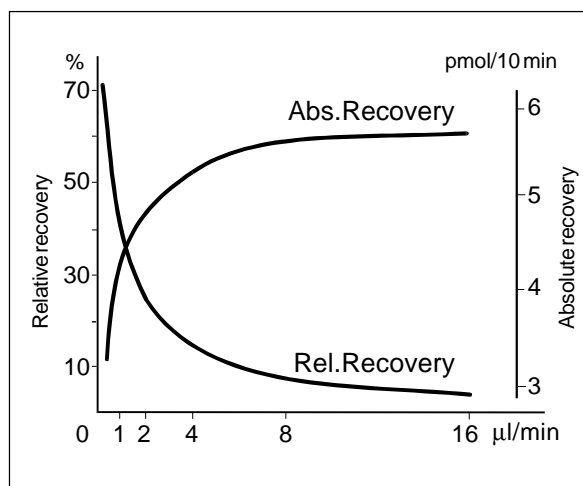

Fig.1. The **relative** and **absolute** recoveries for Dopamine as a function of flow rate. CMA/10 Microdialysis Probe, 4 mm membrane.
**Absolute recovery** is defined as the mass of a substance recovered during a defined time period. It is zero when the flow rate is zero, and will reach a maximum at higher flow rates, as shown in Fig. 1.